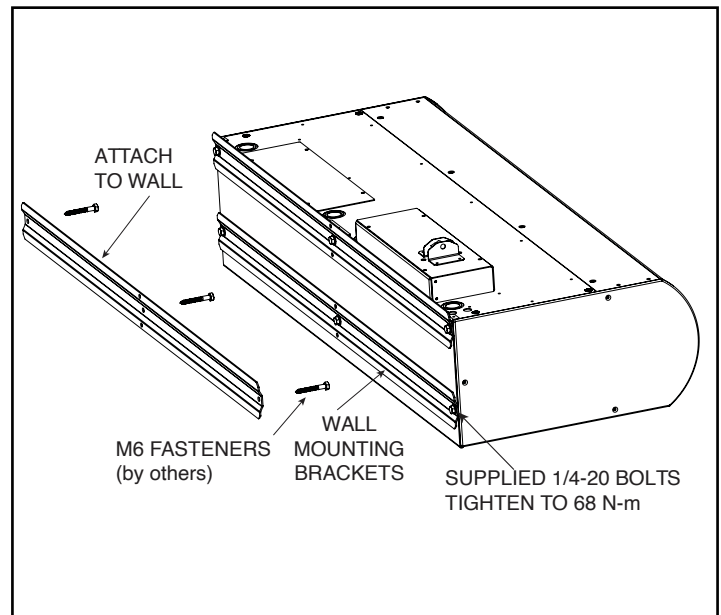

Figure 4 - Wall Mounting Preparation
2. Supplied ¼"-20 bolts to attach the wall mounting brackets to the back of the air curtain. **See Figure 4.**